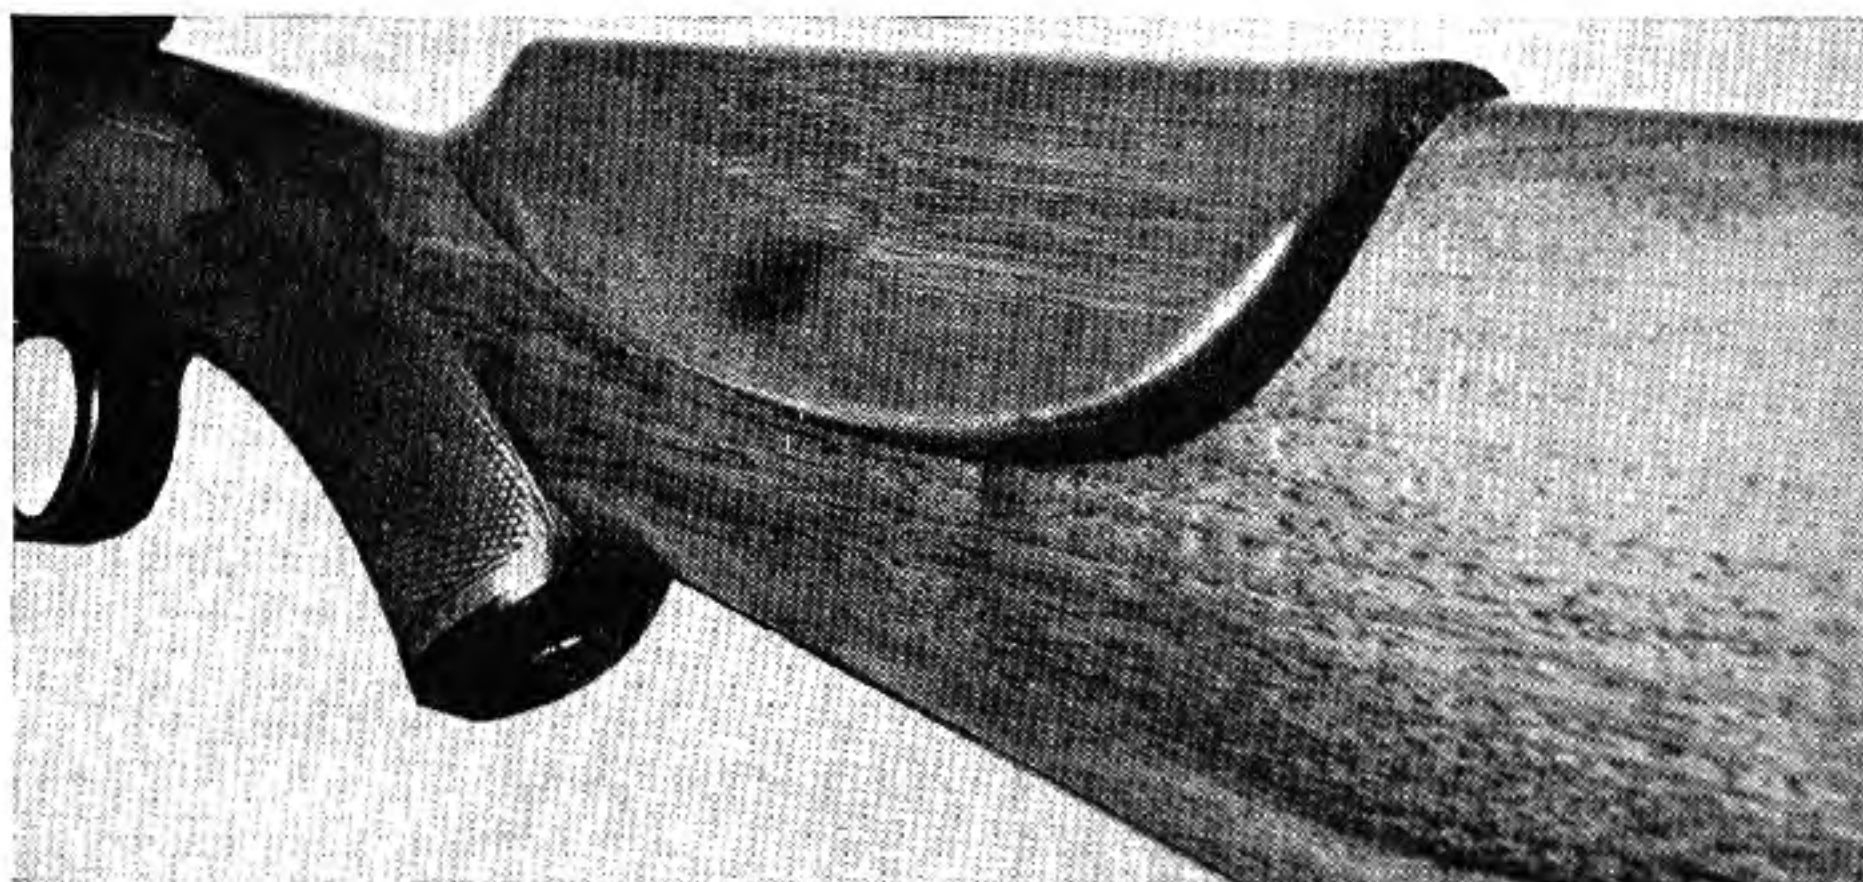

Fig. 102
**Cheek Pieces** — Figure 102 shows a very successful method of attaching a cheek piece. This method is particularly useful when the comb is rather low and a person does not wish to go to the expense of having a new stock made. Such an addition glued in place on an old stock answers the purpose very satisfactorily and should not show any lines. You will remember that it is necessary to get under the oil or varnish finish in order to have the glue effective. Cut into the stock so that you obtain a true surface on the top and sides. Then cut